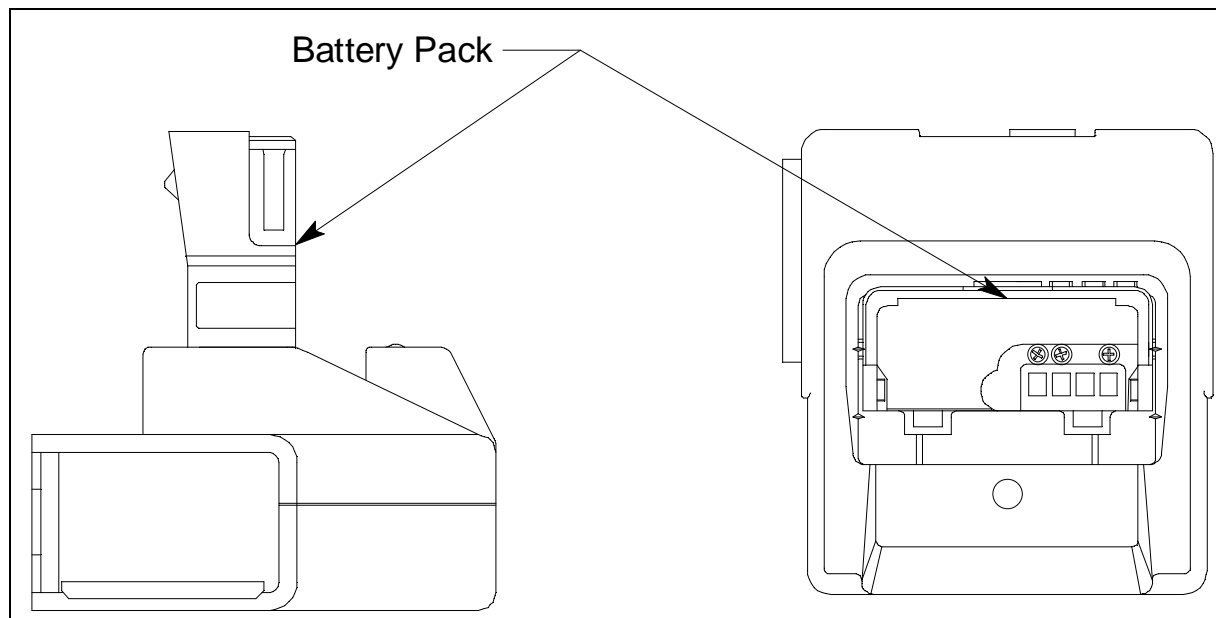

Figure 26: Putting the Battery Pack into the Charging Station
4. Insert the battery pack into the charging station as shown in Figure 26 below so that the metal contacts on the back of the battery pack come into contact with the metal contacts in the charging station. When proper contact has been made, the red LED on the charging station will turn on.